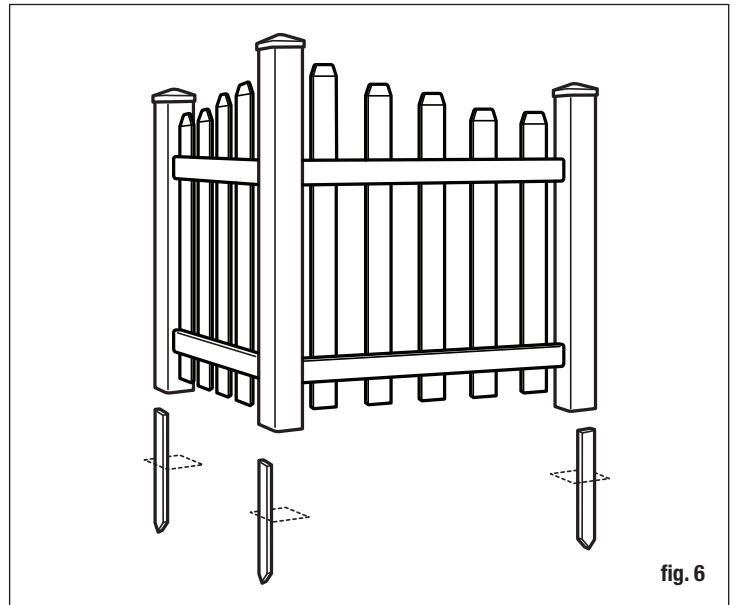

fig. 6
- Pick up fence assembly and reposition posts so that stakes are located inside of posts (fig. 6).